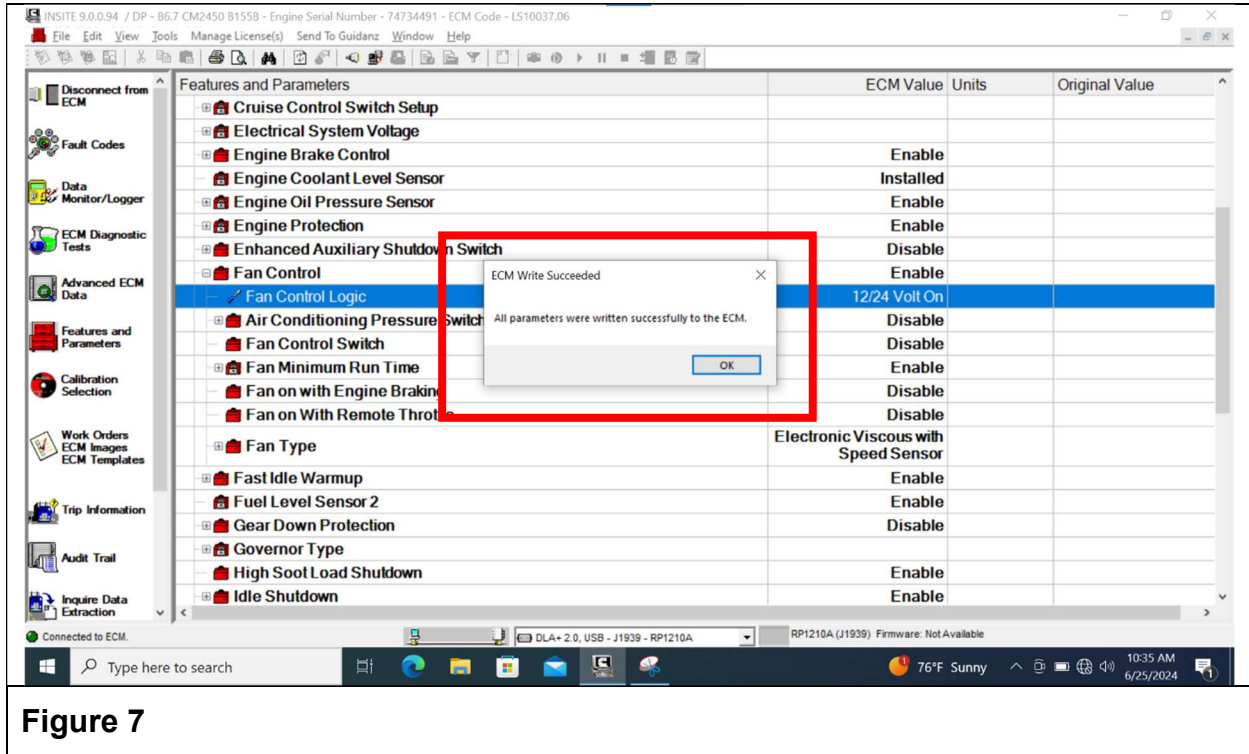

Figure 7
10. Confirm all parameters were written successfully. (See Figure 7.)